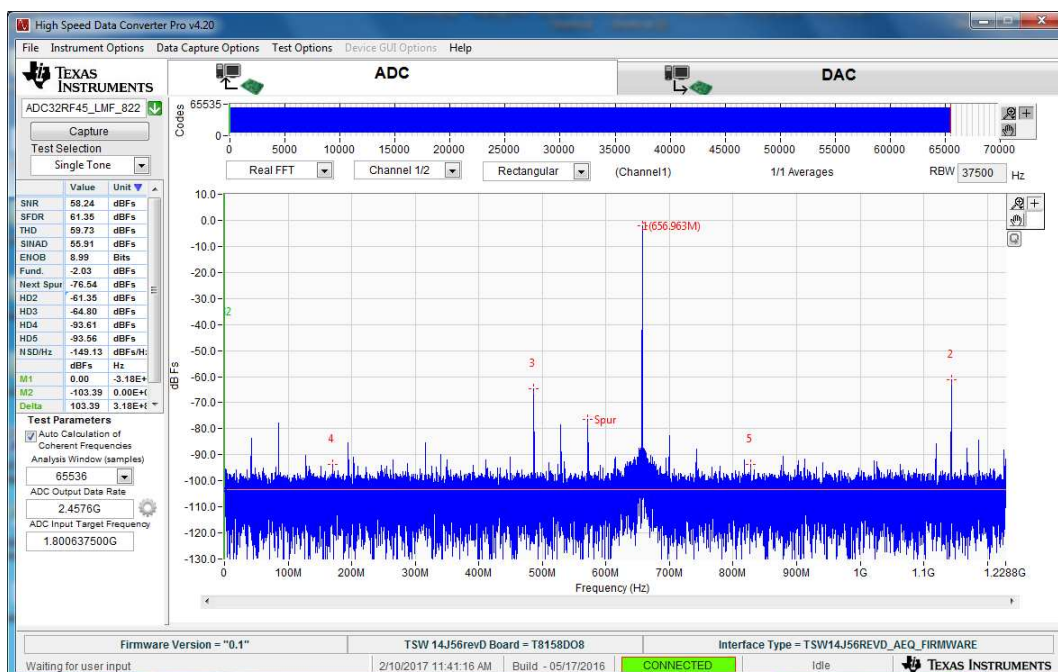

Figure 30. Example Capture from Channel A – LMFS8224 Mode
10. The result should match the example capture in Figure 30.